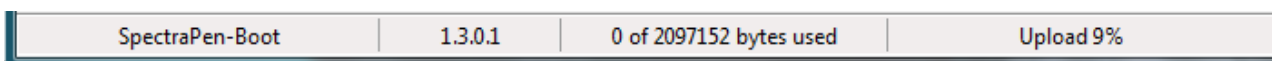

Fig. 34 Firmware update running.
- The bottom bar indicates the upload progress (Fig. 34)